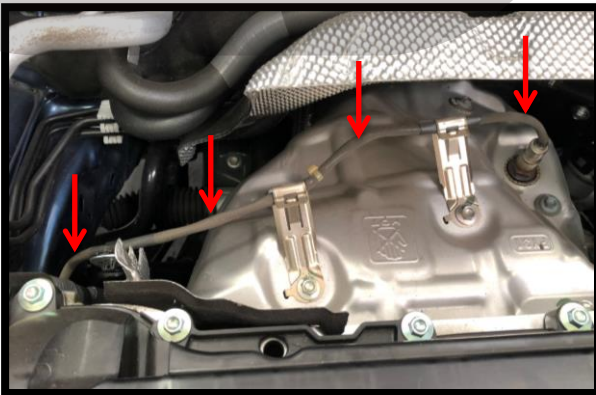
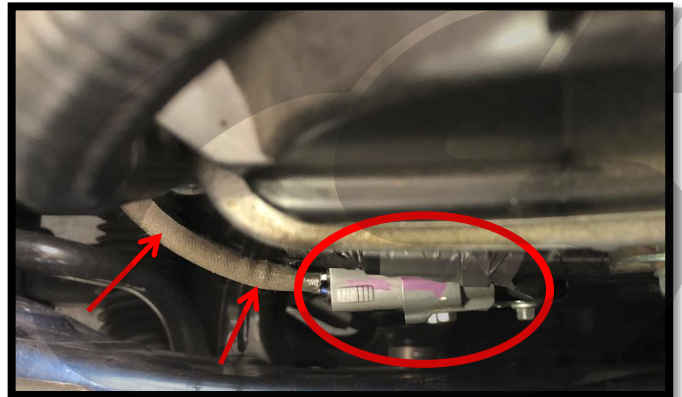

Figure 2b
Figure 2c
- b) Locate the Oxygen (O2) sensor on the top of the OEM header. Trace the wiring to where it meets the engine block. Shown in **Figure 2b and Figure 2c** with the red arrows.
- c) Unplug the O2 sensor wiring. Shown in **Figure 2c**.